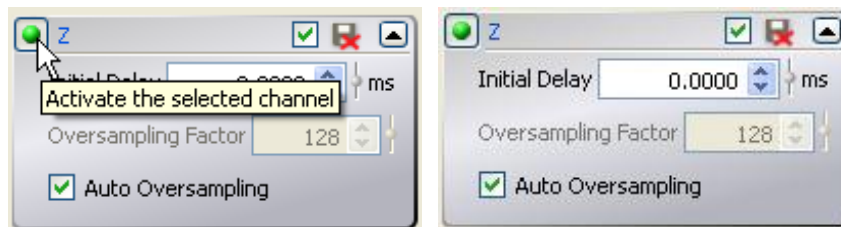

Figure 21. Channel list single item with options open.
- A data point is taken as a number of different single measurements and averaging over the result. The number of single measurements per data point can be selected using the parameter **oversampling factor** accessible from the channel list, see figure 21 on page 36.
- The auto oversampling mechanism can be enabled and disabled using the checkbox shown in figure 21 on page 36. When enabled, the auto oversampling mechanism will maximise the sample count with respect to the raster time and initial sample delay configured.